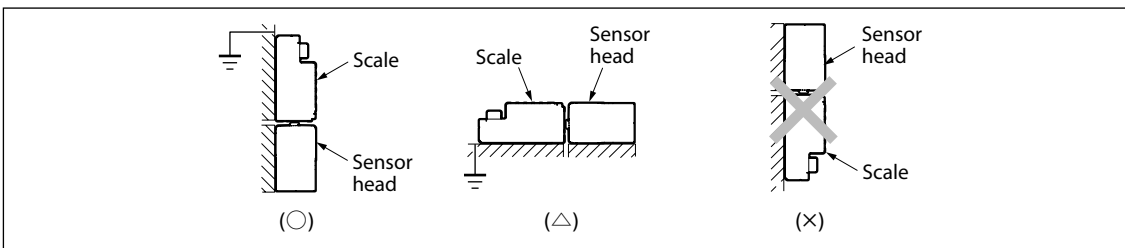

Fig. 3-1
- The sensor head will be damaged if the sensor head is moved outside the effective length (L) after installation. The sensor head must always be moved within the effective length.
- Install the scale unit so that the scale is on the upper side of the sensor head. If the upper side is not available, set it to face horizontally. (Fig. 3-1)